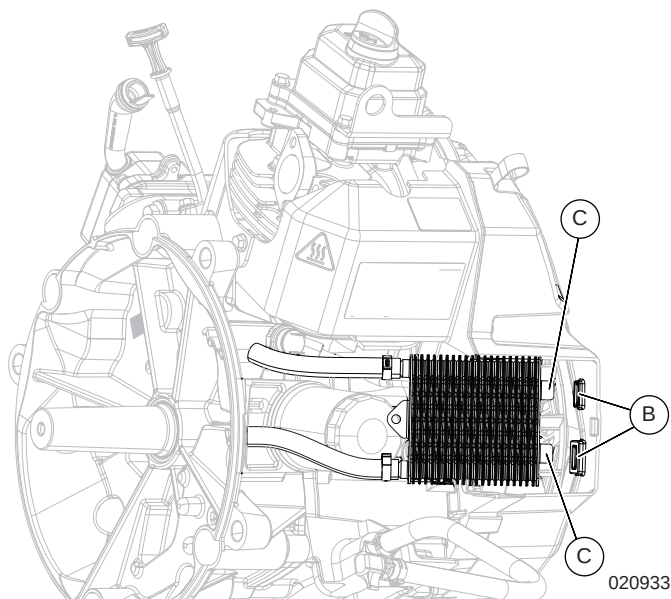

Figure 12-22. Install Oil Cooler
1. See Figure 12-22. Verify 1/4 NPT* x 3/8 hose barb oil cooler fitting (A) has lock patch on threads.